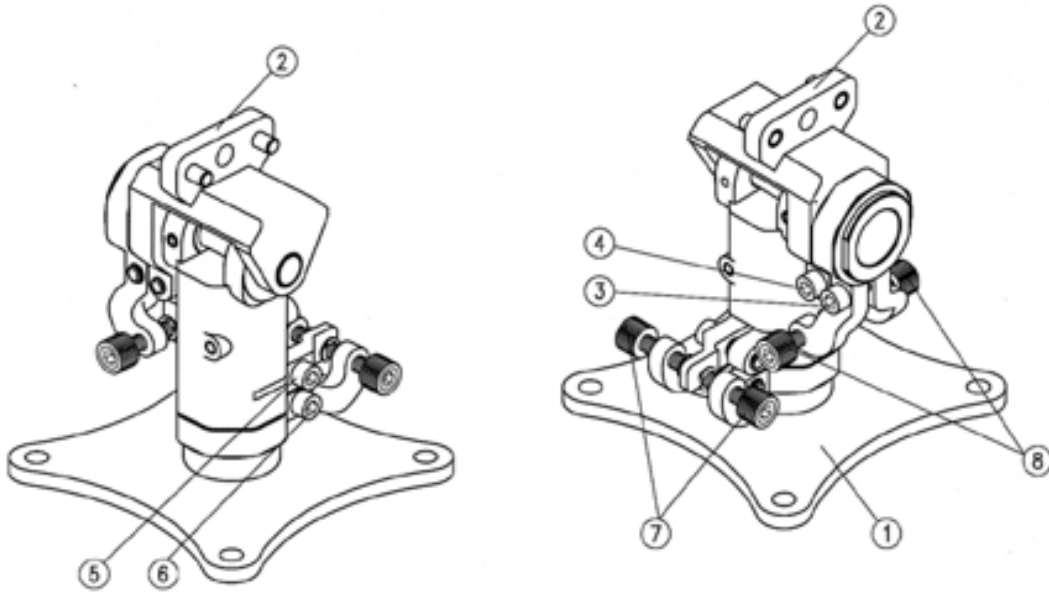
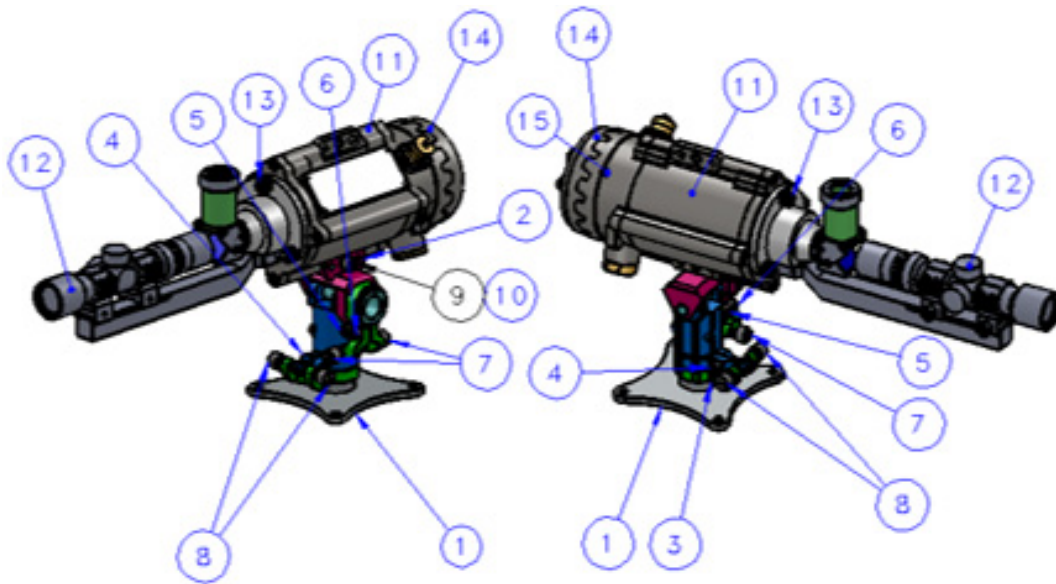
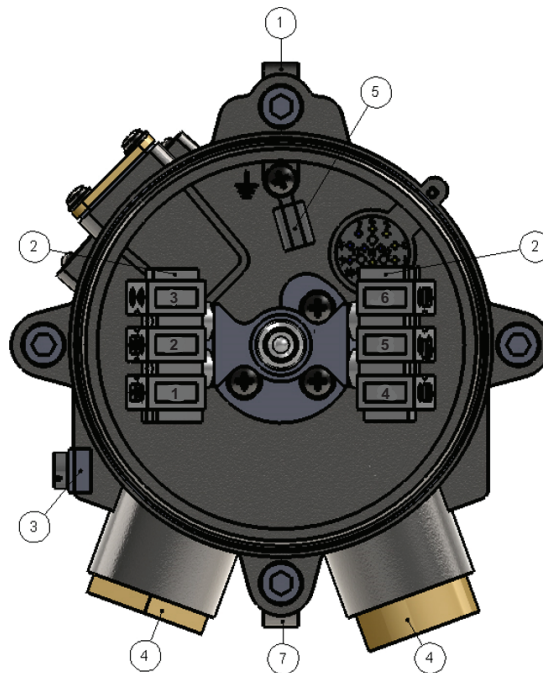

Figure 6-1: Tilt Mount
Figure 6-2: Detector/Source and Tilt Mount Assembly
Figure 6-4: Source with Cover Removed
(Refer to Figure 6-1: Tilt Mount and Figure 6-2: Detector/Source and Tilt Mount Assembly)
2. Release the back cover secure bolt (item 15, Figure 6-2:), and open the detector back cover (item 14, Figure 6-2:). The chamber is now revealed.
6. Place and secure the Detector back cover by screwing the cover and securing it using the secure bolt (item 15, Figure 6-2:).
1. Release the back screw bolt (item 15, Figure 6-2: Detector/Source and Tilt Mount Assembly), and open the source back cover (item 14, Figure 6-4:). The chamber is now revealed.
2. Remove the protective plug mounted on the source conduit/cable entry inlet; pull the wires through the source inlet (item 4, Figure 6-4: Source with Cover Removed). Using a $\frac{3}{4}$ " - 14NPT or M25x1.5 explosion-proof conduit connection/cable gland, assemble the cable/explosion-proof conduit to the Detector.
3. Connect the wires to the required terminals (item 2, Figure 6-4:) according to the wiring diagram. See 6.8.1. SOURCE TERMINAL WIRING and Figure A-1: Detector Wiring Terminal.
4. Connect the grounding wire to the ground screw outside Detector (item 3, Figure 6-4:). Always ground the source to Earth Ground.